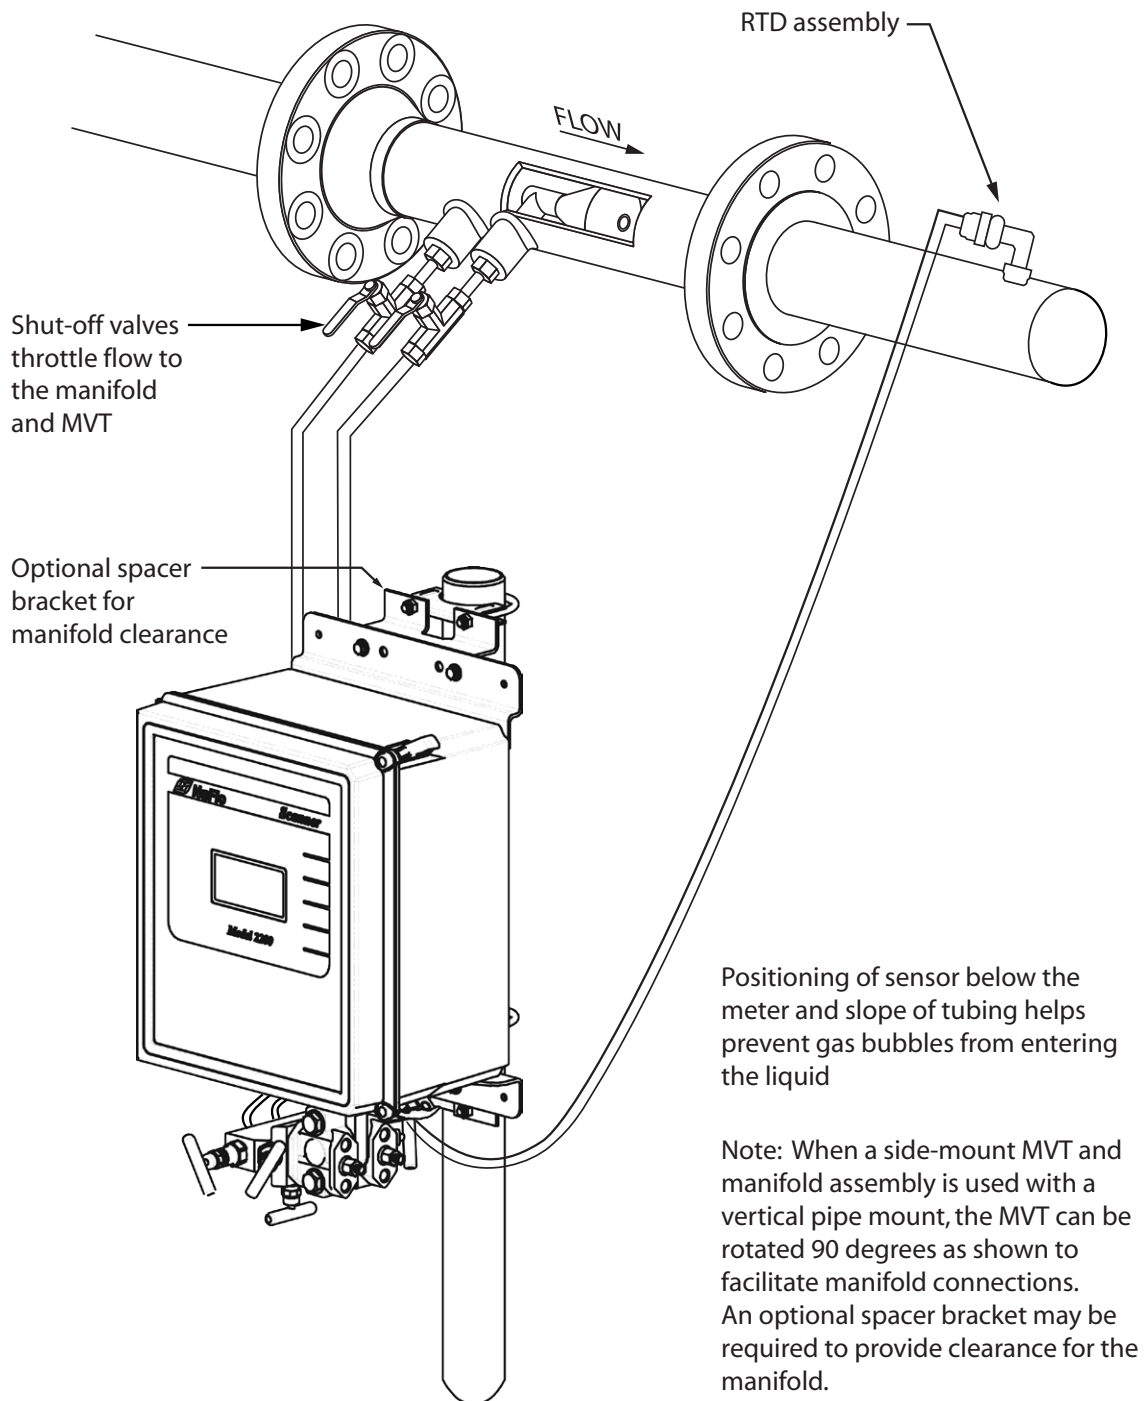

Figure 2.8—Liquid run installation (shown here with a cone meter). The same configuration can be used with an orifice meter.
A Scanner 2200 can be mounted remotely and connected to an orifice meter or cone meter with tubing for liquid measurement (Figure 2.8, page 37). The setup of the meter run and plumbing configurations can vary widely, depending upon the challenges existing on location.
**CAUTION:** When measuring liquid, process connections must be designed to eliminate air pockets. This is achieved by mounting the sensor below the metering device and sloping all tubing downward from the meter to the sensor. A side-port MVT and block manifold (Figure 2.8, page 37) is recommended to help prevent air bubbles from being trapped in the sensor.